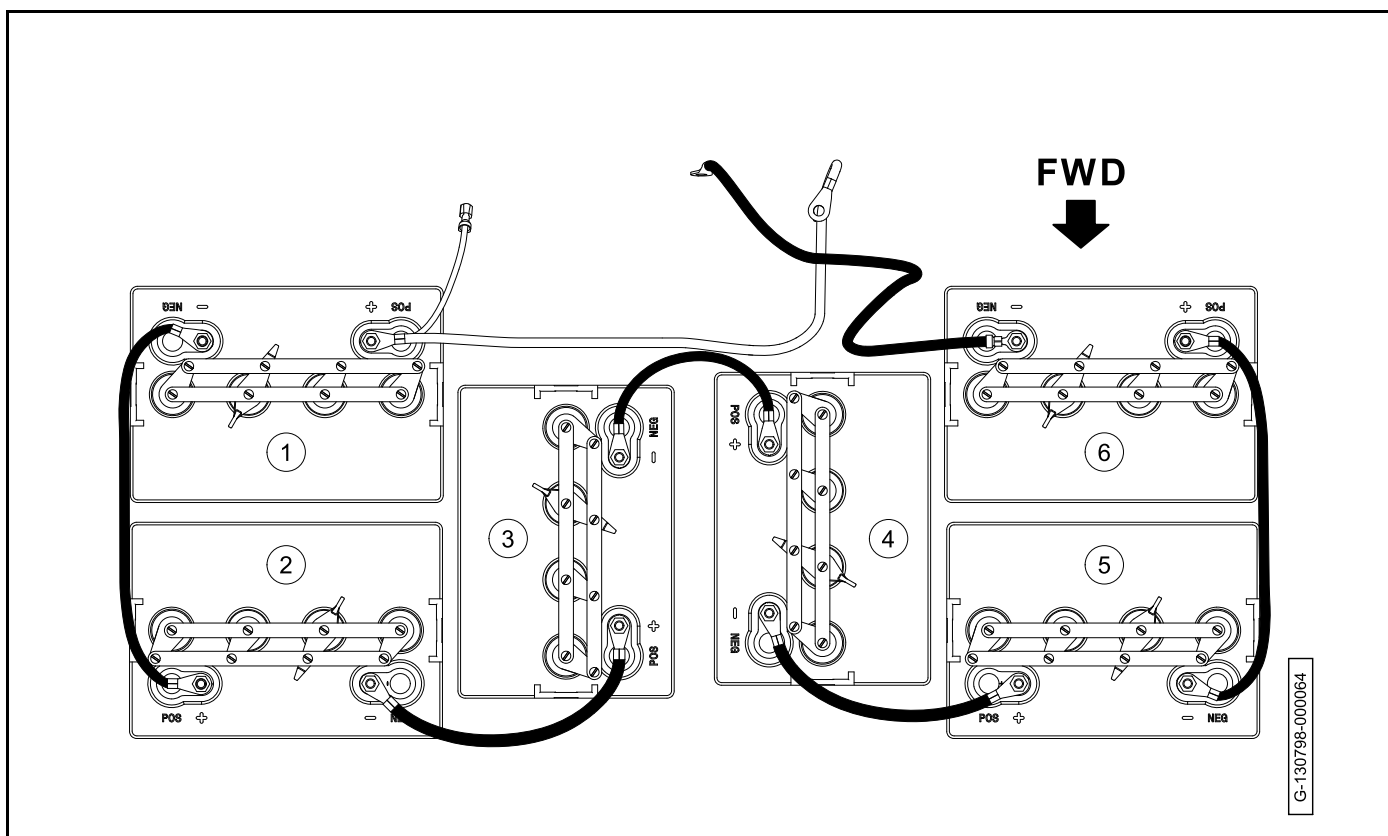

Figure 12-6
2. Connect the discharge machine positive (+) lead to the positive (+) post of battery number (1) (**Figure 12-6, Page 12-14**).